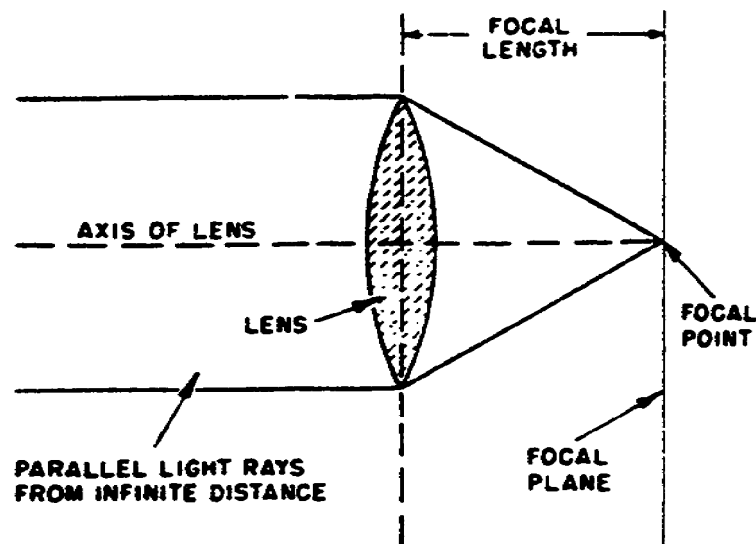

Figure 2-8. Focal Length.
- c. Focal length controls image brightness, lens speed, and image size, (fig 2-8).